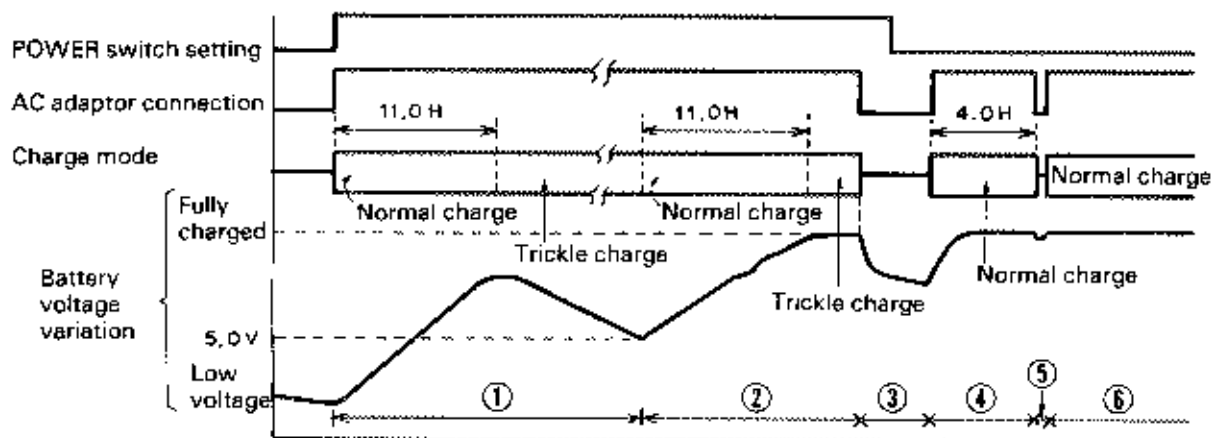

Fig. 2-8 Main Battery Charging Operation
In the following text, the functions of jumper J2 are summarized. Then, the actual main battery charging operations are described based in Fig. 2-8.
(2) Charging Operations
- Fig. 2-8 is a timing diagram which illustrates the main battery charging operation when the charge control is in effect.
Fig. 2-8 illustrates the main battery charging operation from a low voltage. The individual steps of the operation ① through ⑦ are explained in detail in the following:
① Situation – Low voltage is detected while the computer is used with the AC adaptor connected.